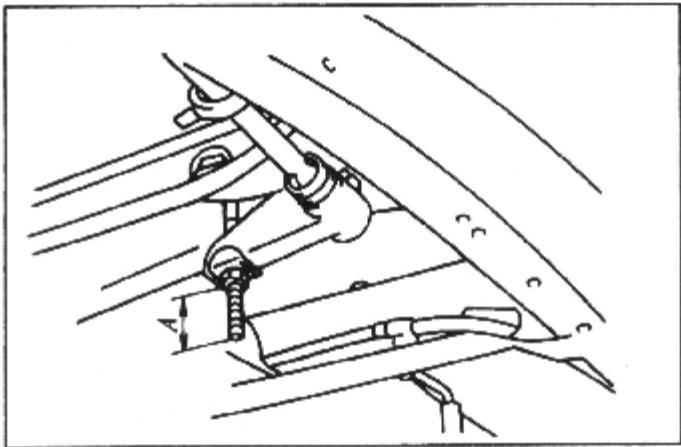

Figure 10-7-4 Measurement of Length of Bolt A
- ① Check front suspension: compress and extend the shock absorber, check for abnormal resistance or working sounds. If any, replace with a new shock absorber.
- ② Repair torsion bar spring: make fitting marks on torsion bar spring, torsion arm and fixed arm; measure the length of extended bolt end A as shown in figure 10-7-4. The value of which will be a reference when adjusting height of the vehicle; there are left and right index marks at rear end of torsion bar spring. Do not install it to opposite direction.